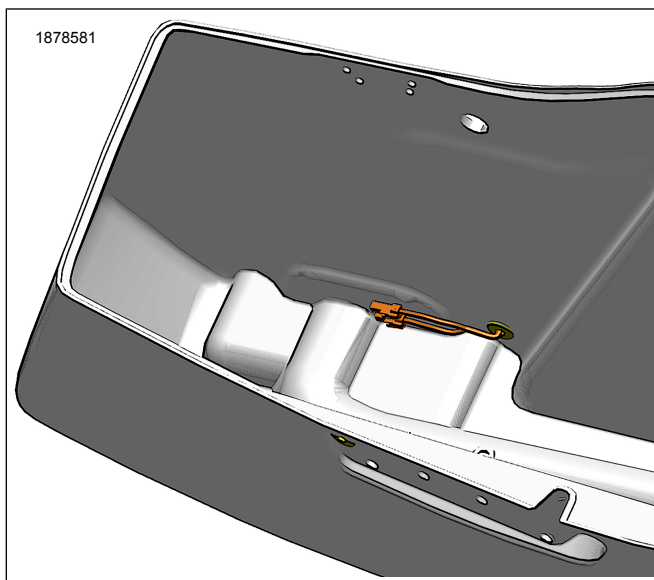

Figure 4. Jumper Harness Routing
3. Figure 4 If installing Saddlebag Interior Lamp Kit (Part No. 68000425) with Saddlebag Marker Lamp Kit (Part No. 68000372), separate purchase of two Rear Accessory Wire Harness jumpers (Part No. 69203366) is required.